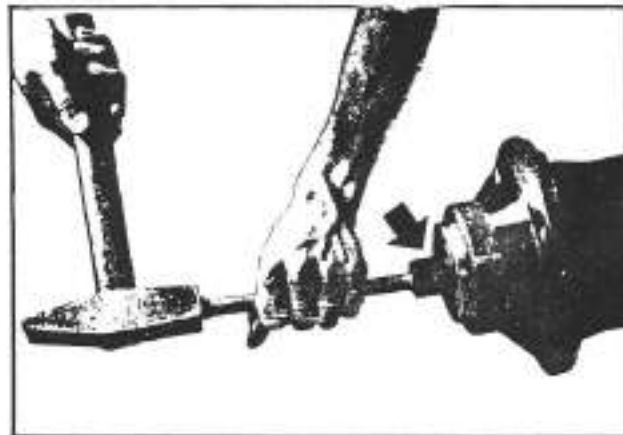
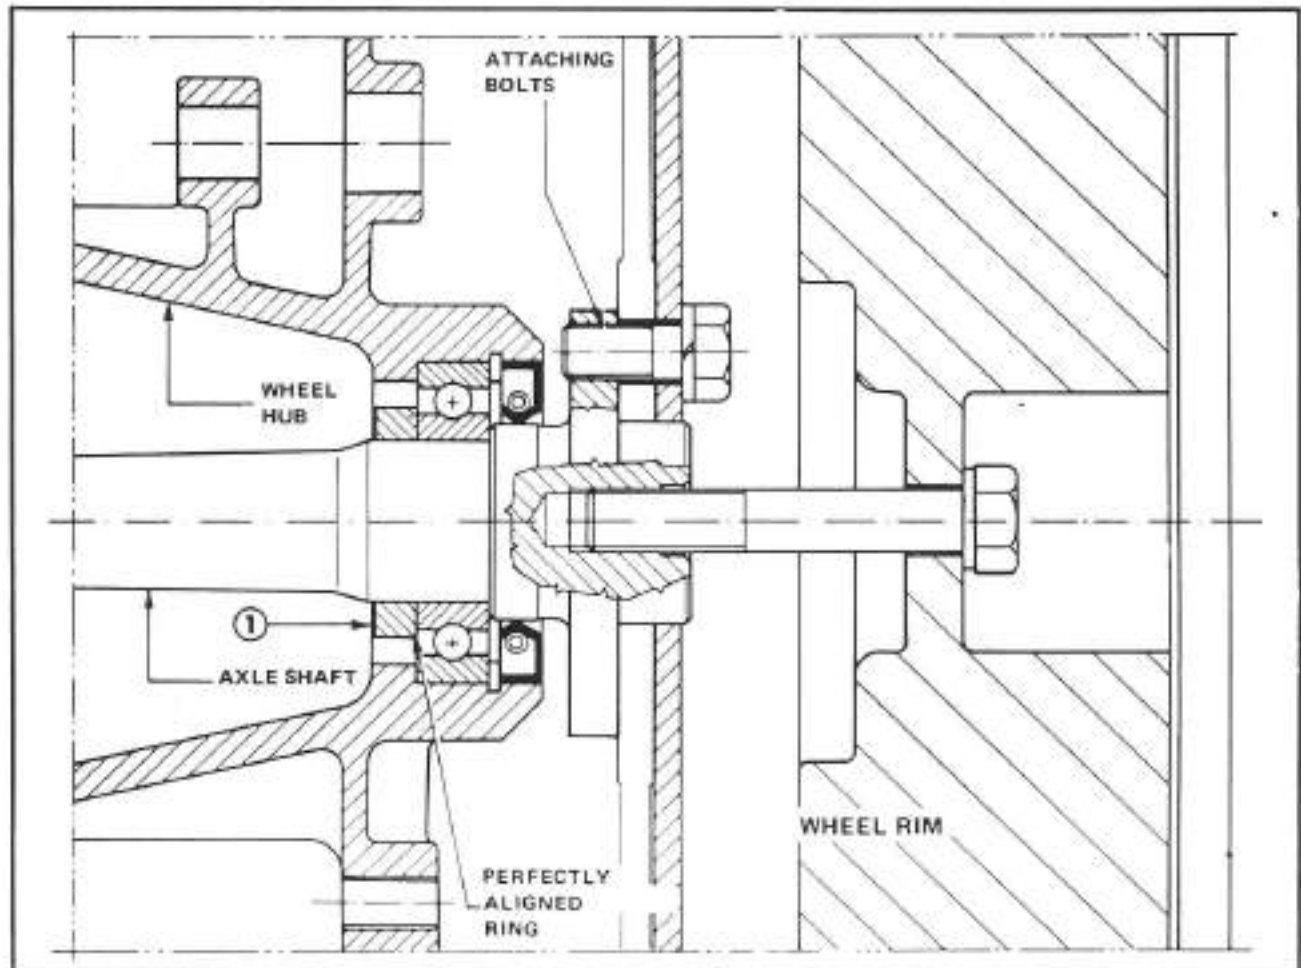
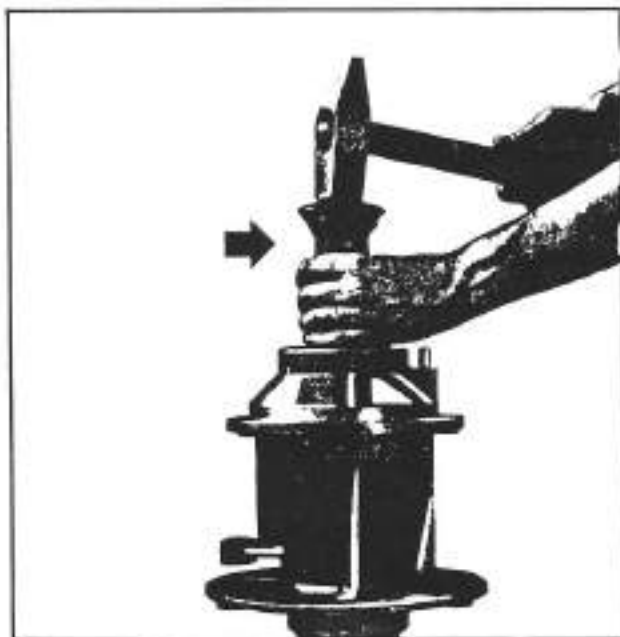

Fig. 3-52. Extraction of axle shaft
Fig. 3-53. Axle shaft locking ring
Fig. 3-56. Remounting of the locking ring on the axle shaft
- e. Using a hammer and a punch (see figure 3-52) push out the axle shaft and locking ring (1; fig. 3-53) which should have come off and fallen inside the hub.
- In order to remount the locking ring (1; fig. 3-53) it is necessary to heat it to a temperature of 180 to 200°C (355 to 390°F) (blue color). Put the locking ring over the axle shaft and let it fall in place (see figure 3-55). Using a hammer and a piece of metal tube (see figure 3-56) of the correct diameter, align the ring perfectly on the axle shaft, in contact with the bearing. Let cool.